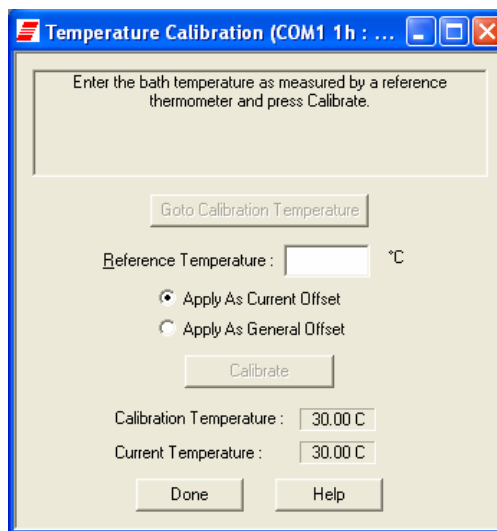

Figure 2: Reference Temperature Window
9. Enter the current temperature reading to the nearest 0.01 °C from the reference thermometer into the **Reference Temperature** display window as shown in Figure 2.